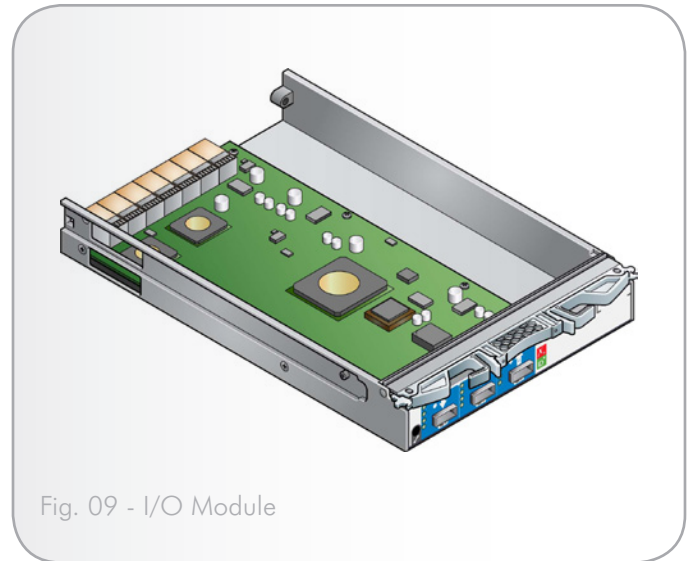

Fig. 09 - I/O Module
- ◆ One or two plug-in I/O modules (See Fig. 09), dependent on customer requirement.